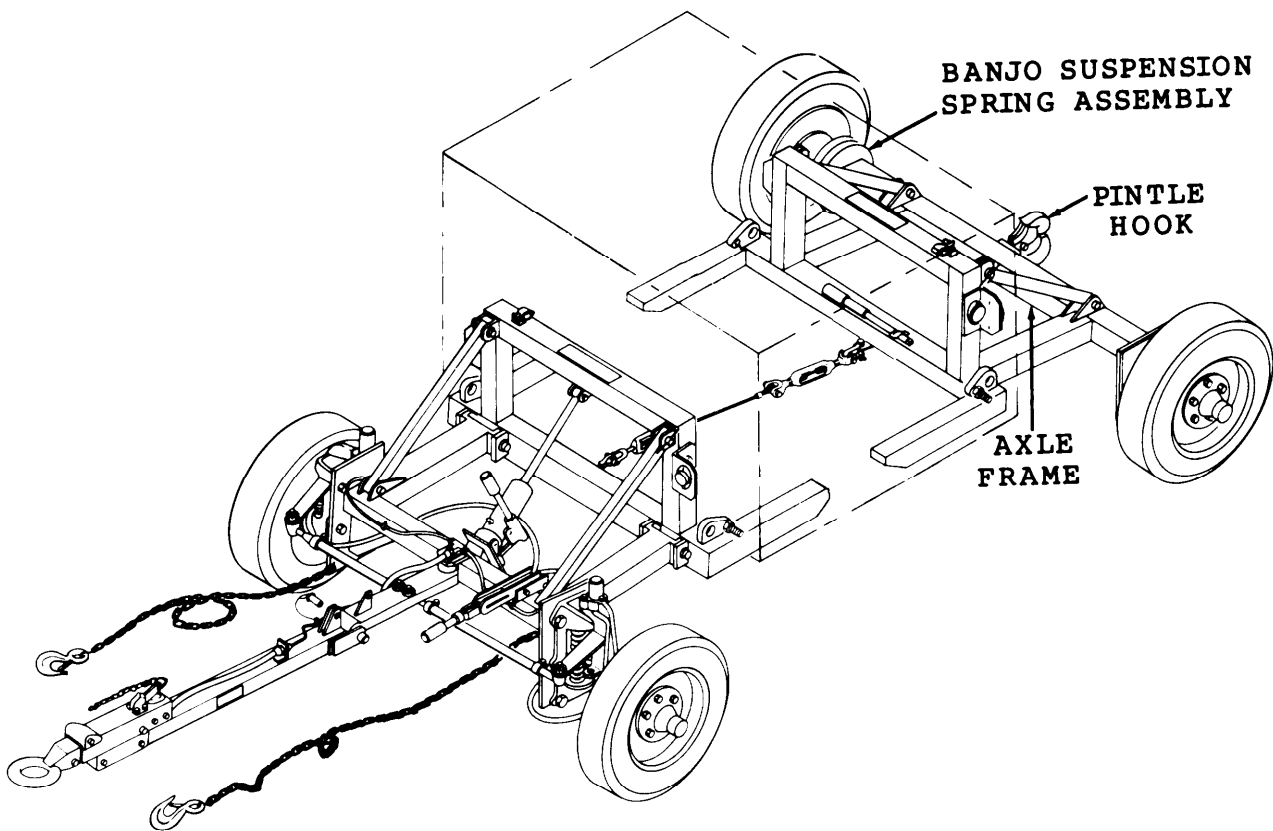

Figure 1-6. Rear Axle Group Components.
c. *Rear Axle Group.* The rear axle group (Refer to Figure 1-6) includes the following parts:
- (1) Axle Frame. Banjo spring suspension assemblies are mounted to the frame. Pintle hook also mounts to frame.
- (2) Banjo Suspension Spring Assemblies. Each banjo suspension spring assembly contains seven springs that absorb road shock.
- (3) Pintle Hook. Provides a means to tow another trailer in tandem.